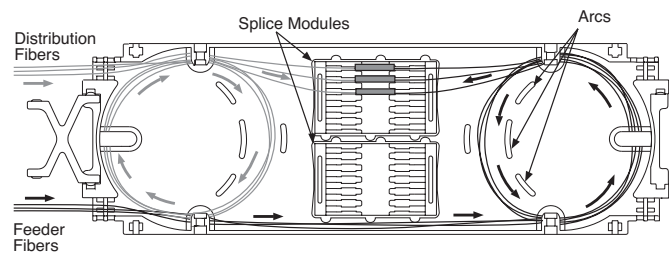

Figure 2
7. Gather slack fiber to be stored at one end of the tray. Fold the fiber loops over on themselves to form a coil roughly three inches in diameter. Lay the coil on the tray around the arcs. Fibers must be routed as shown in Figures 2 and 3.